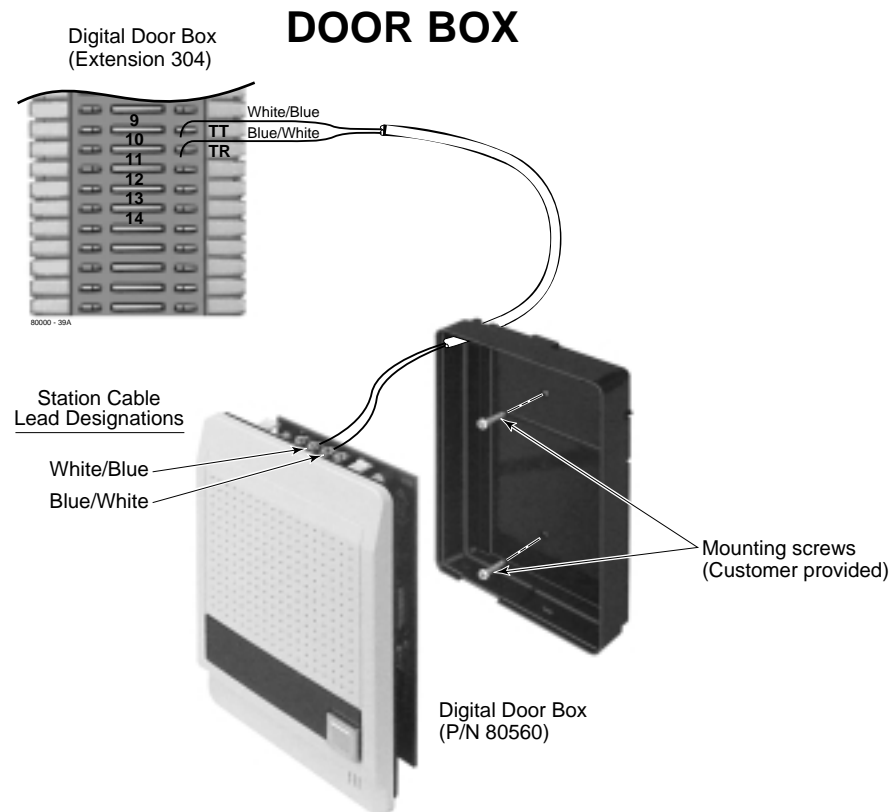

Figure 4-2 CONNECTING A DOOR BOX
### Installing the Digital Door Box (Figure 4-2)
2. Punch down one end of a two-pair twisted station cable on the extension block as shown in Figure 4-2.